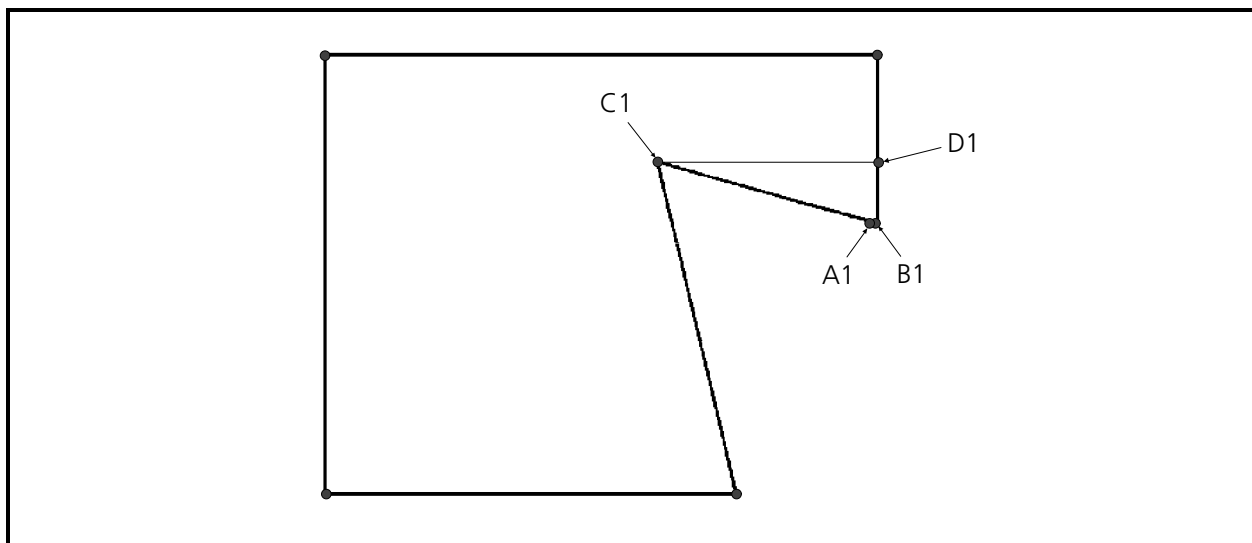

Figure 6-70
5. Enter a Mk1 at A1 in the illustration in Figure 6-70. This will identify the 'A' end of the first line of the first fill.
9. Enter a Mk2 at point B1 as shown in Figure 6-70. This identifies the start of the first side of the fill.